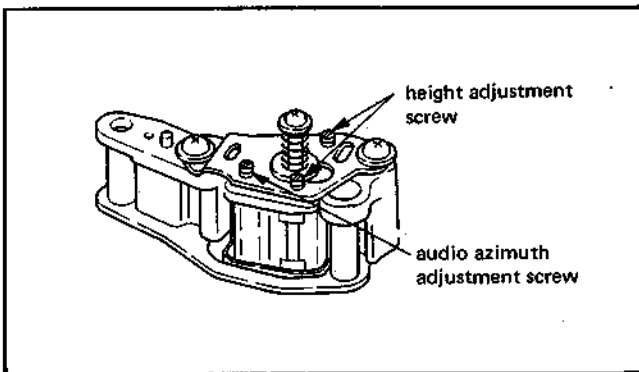
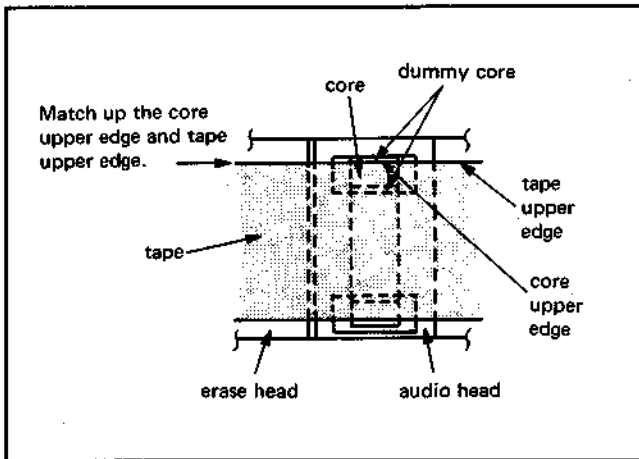

Fig. 3-30
Fig. 3-31
- 5) While observing the audio head (Fig. 3-30) with a dental mirror, match up the core upper edge and tape upper edge as in Fig. 3-31, with the two height adjustment screws and the azimuth adjustment screw.